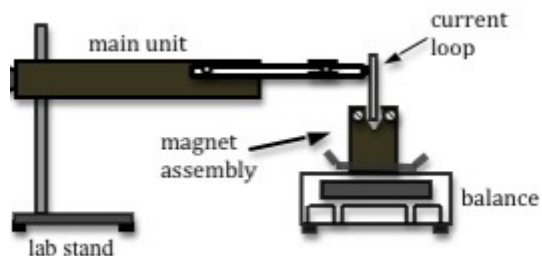

Figure 5: Side-view of apparatus
- 6 Position the equipment so that the current loop extends into the top notch of the magnetic assembly without touching the sides or the bottom. See Fig. 5.